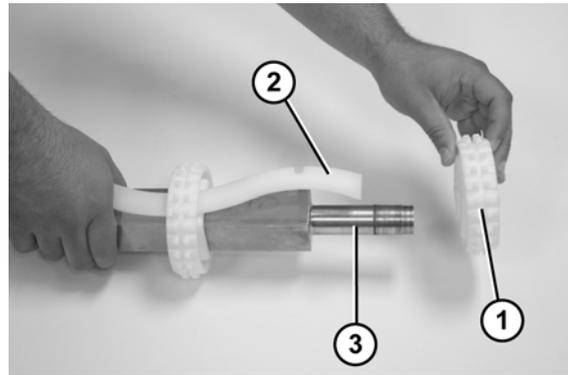

Figure 68
- Slide the sprockets (Figure 68, item 1) and the sprocket alignment bar (Figure 68, item 2) off the drive spindle (Figure 68, item 3).